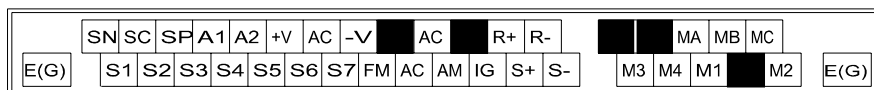

Fig 5 Control terminal arrangement
*Fig 5* shows the control terminal arrangement. The functions of the control circuit terminals are shown in *Table 2*. Use the appropriate terminals for the correct purposes.